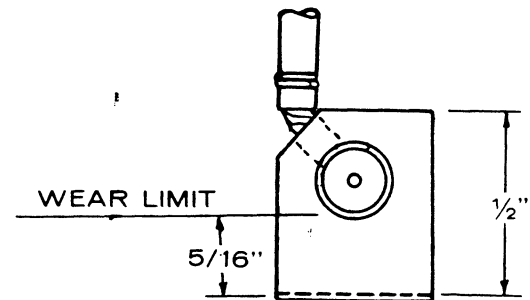

FIGURE 21. BRUSH INSPECTION FOR WEAR
6. Excessive brush wear – To check need for replacement of brushes due to wear, examine as shown in Figure 21. Replace each brush showing 3/8 inch or more wear.